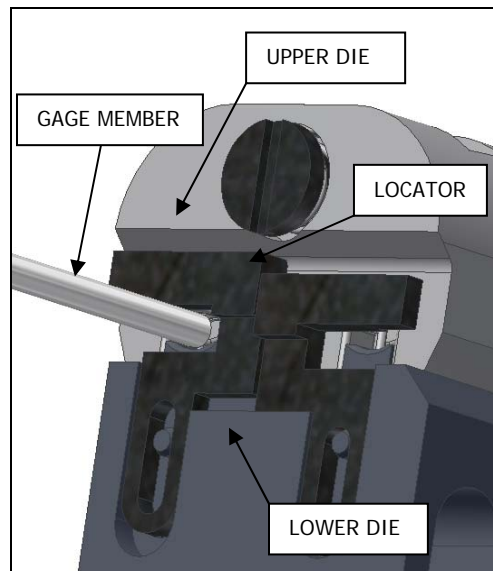

FIGURE 2
2. Insert the appropriately sized GO gage (Green) member under the locator and into the conductor cavity, of the die (Red or Blue) you are trying to gage (See Figure 2).
4. Attempt to insert the NO-GO gage (Red) member under the locator and into the conductor cavity, of the die (Red or Blue) you are trying to gage (See Figure 2).